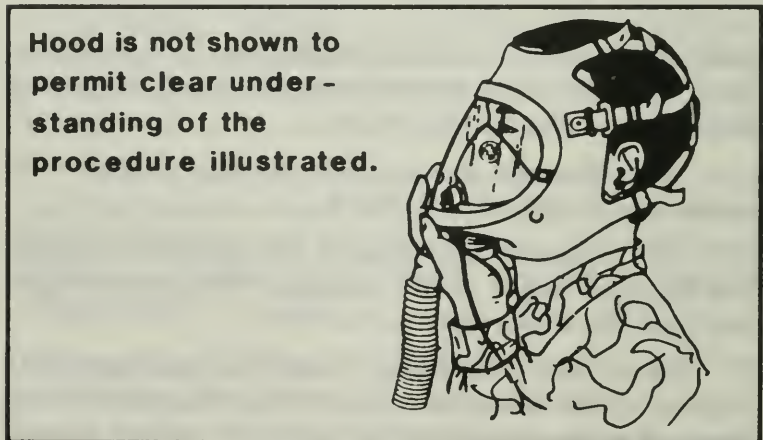

Figure 259. Clear Mask.
(7) Smooth the harness straps. Ensure the straps lie flat against your head.
(8) Smooth the edges of the facepiece. Stroke the facepiece edges of the facepiece with your fingers and push the edges against your face.
(9) Clear your mask. Cover the openings at the bottom of the outlet valve cover with the palm of one hand. Breathe out forcefully so the air escapes around the edges of the facepiece (Figure 259).
(10) Check the mask for leaks. Press your palm over the opening in the canister coupling to seal the canister. Breathe in lightly. If the mask collapses against your face and remains so while you hold your breath, the mask is airtight. If the mask does not collapse, check for hair or clothing between the mask and your face. Adjust the straps if necessary and recheck.
(11) Resume normal breathing.